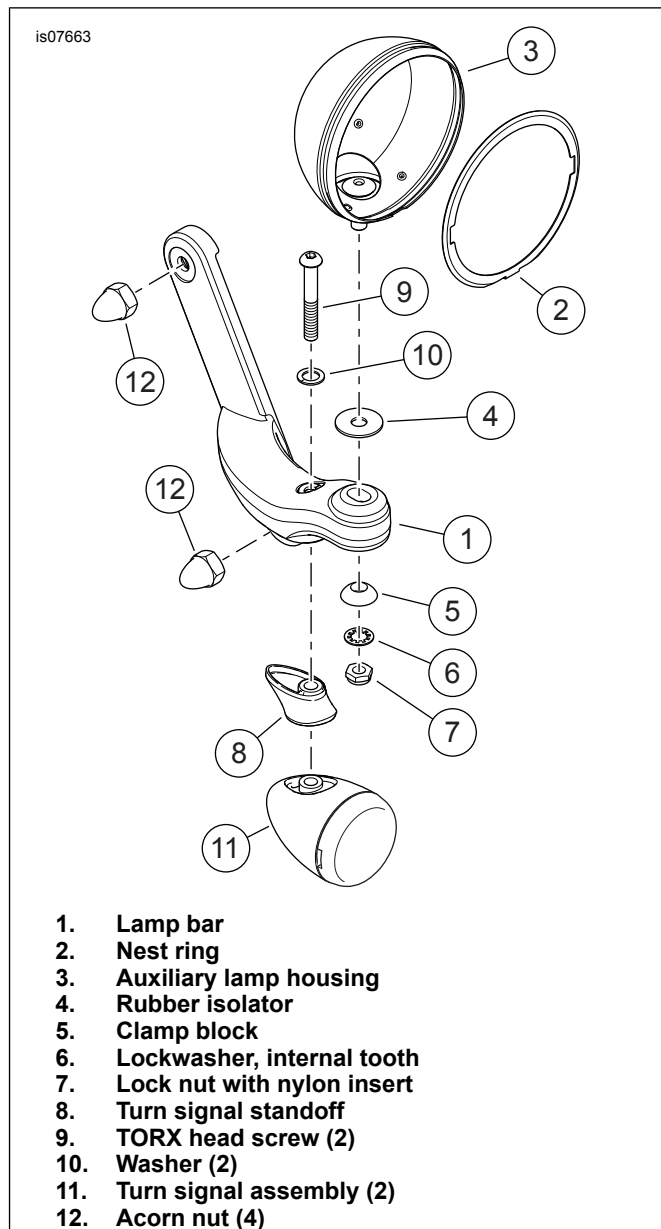

Figure 2. Auxiliary Lamp Assembly (Wiring not shown)
1. See Figure 2. Get a lamp bar (1), lamp housing (3), rubber isolator (4), clamp block (5), lockwasher (6) and locknut (7) from kit.
1. See Figure 2. Hold the auxiliary lamp bar assembly near the installed position.
2. Install two acorn nuts (12) onto studs to attach bar assembly to vehicle. Tighten.